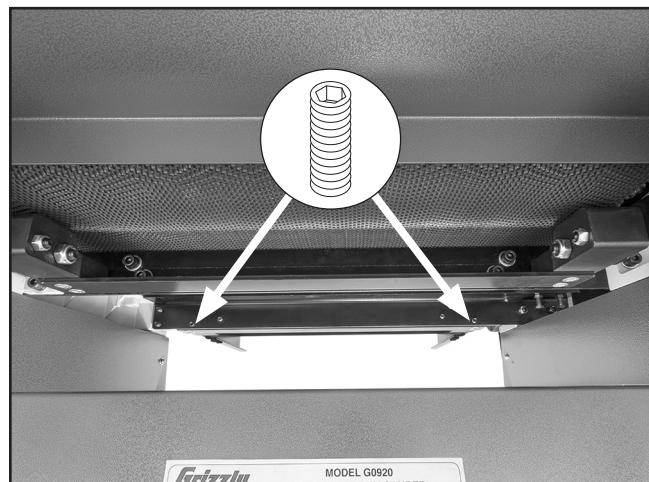

Figure 27. Location of table alignment set screws.
- 29.** Adjust (2) set screws shown in **Figure 27** until extension table is even with conveyor table.